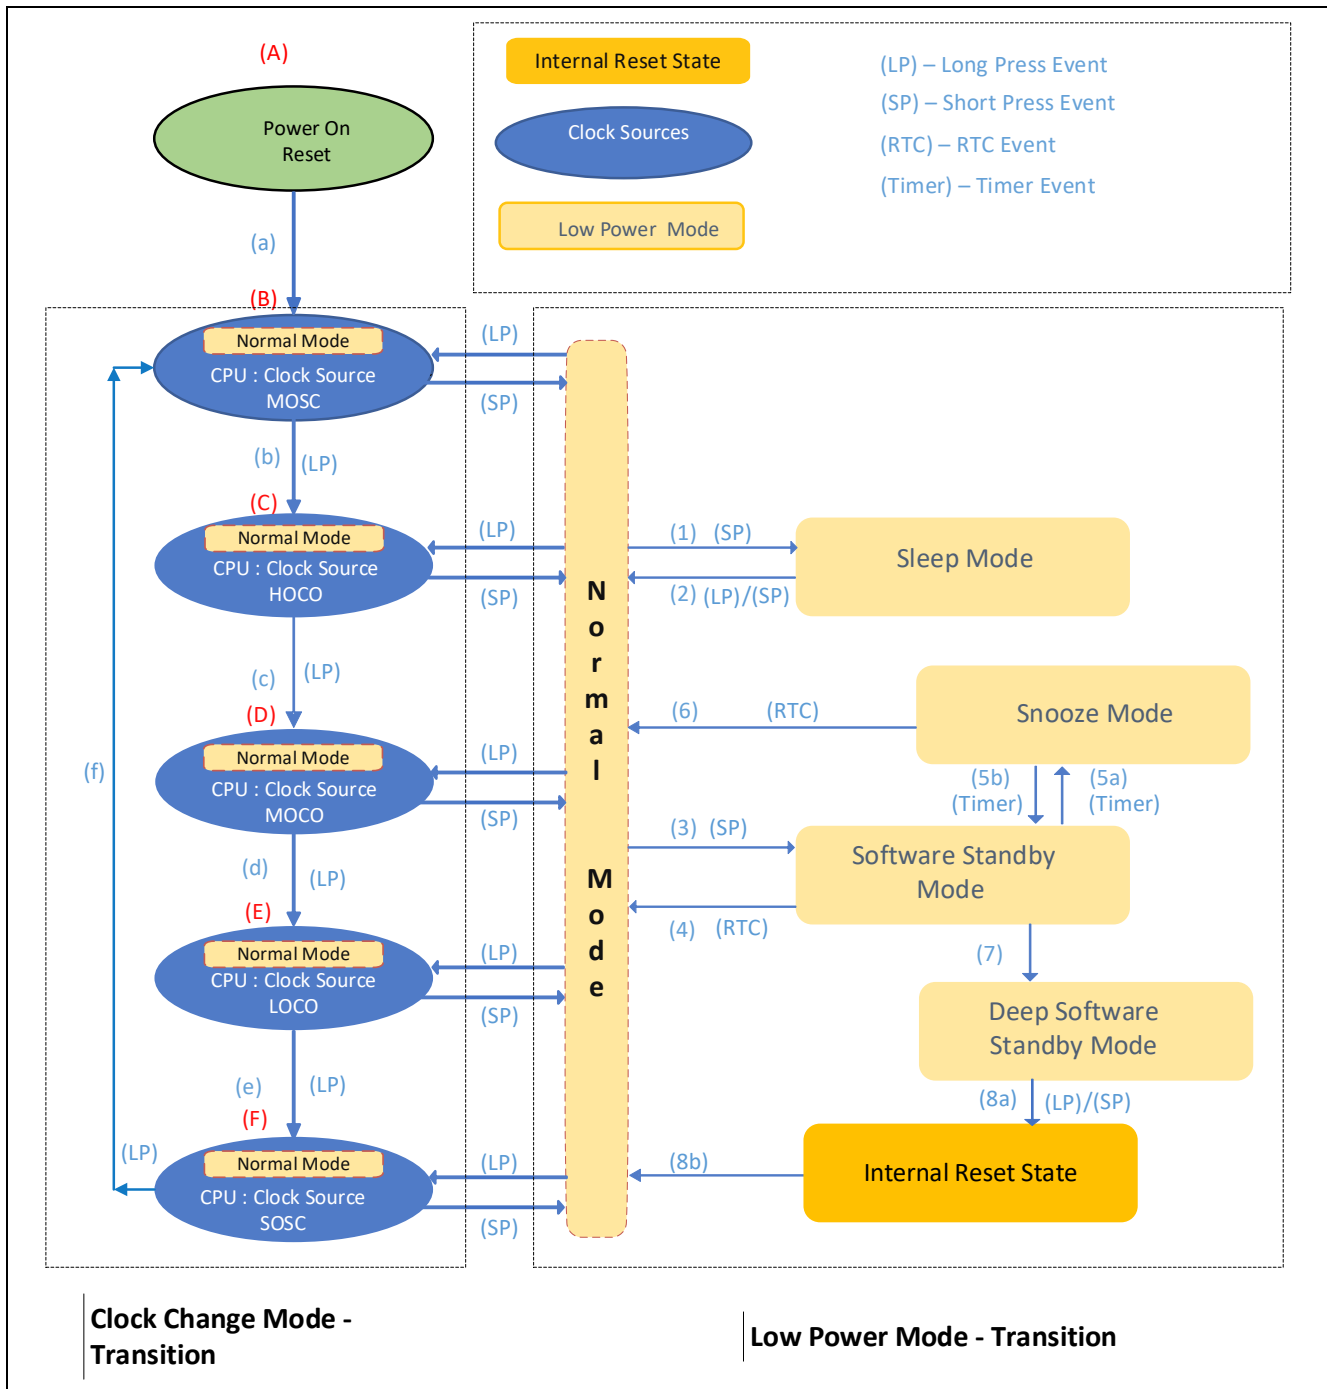

Figure 18. Clock Changing and LPM Transition
The following Figure 18 shows the different clock sources and the associated LPM used in the application and different transition states. The application implemented using the event driven mechanism. In this event driven system, events can be user driven or system generated, which are used as the input to the finite state machine. Two separate state transition tables are used here in the application.
In the above Figure 18, the blue colored oval shaped blocks (B) through (F) represent the different clock states used in the application, and (b) through (f) labeled arrows are different transition paths it takes when changing the clock.
Note: The dotted block represents the Clock Change Mode transition on the left and LPM Transition on the right as shown in Figure 18.